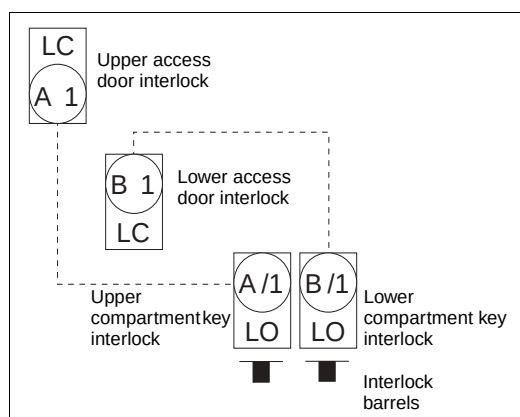

Figure 9: Interlock Status (Step 5)
5. Lock open (LO) both key interlocks to retract both interlock barrels (see Figure 9 for interlock status).